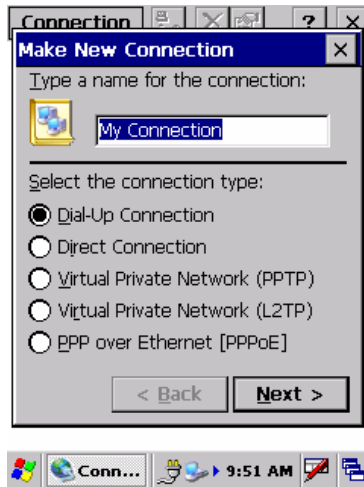

Fig. 3.30
1. Specify name in **Type a name for the connection** field and select a type of connection and then tap **Next >** button. See Fig. 3.30.